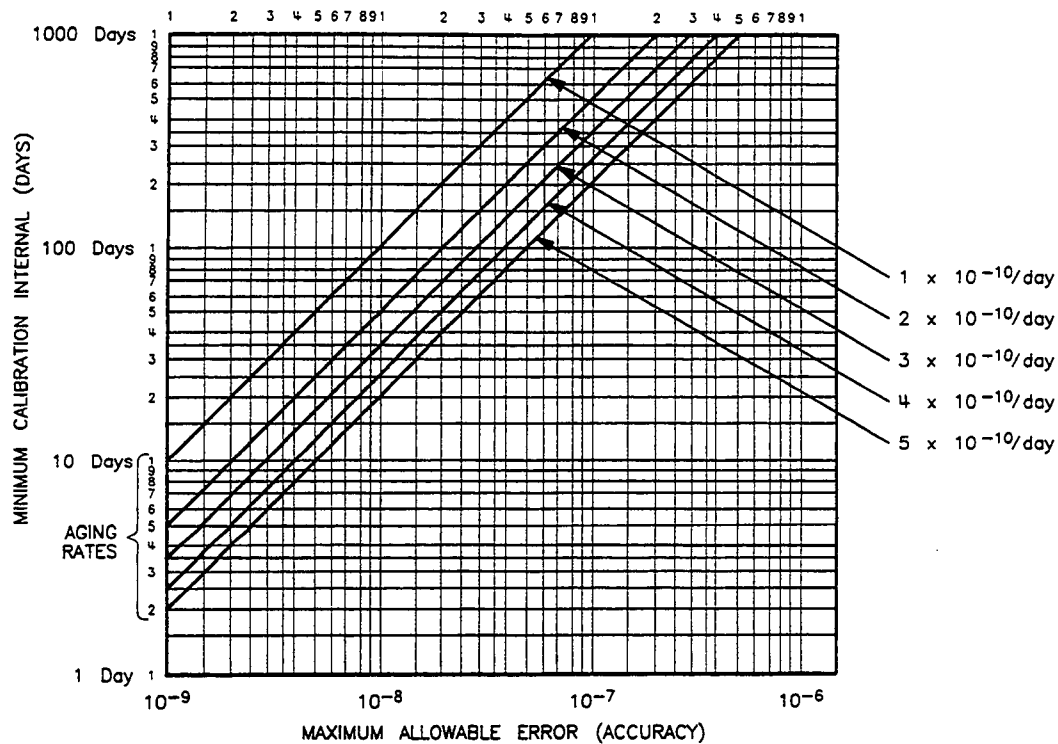

Figure 3-3. Accuracy Versus Adjustment Interval
This procedure adjusts the frequency accuracy of the internal 10 MHz time base. This adjustment should be done on a regular basis if absolute frequency accuracy is important (see figure 3-3.)
Figure 3-3 shows the required adjustment interval to maintain a given accuracy. If you know the aging rate, you can determine a more precise adjustment interval.
1. Find the line on figure 3-3 that corresponds to the 10 MHz timebase oscillator aging rate (to determine the aging rate, see "Performance Tests").